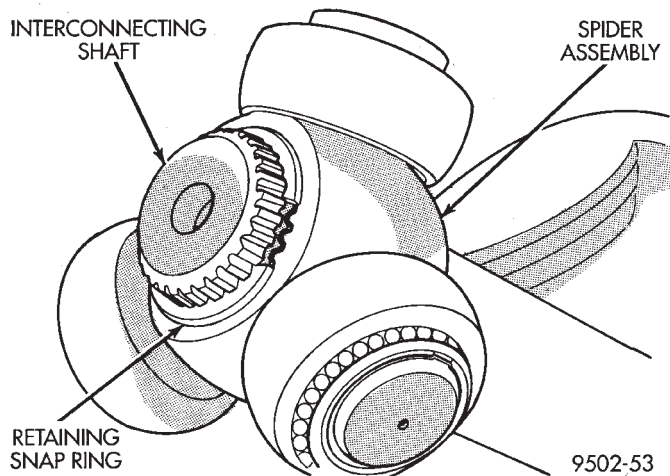

Fig. 33 Spider Assembly Retaining Snap Ring Installed
(3) Install the spider assembly to interconnecting shaft retaining snap ring into groove on end of interconnecting shaft (Fig. 33). Be sure the snap ring is fully seated into groove on interconnecting shaft.